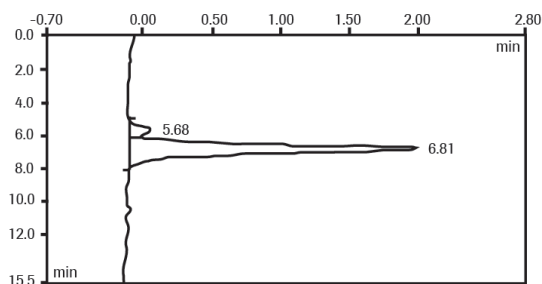
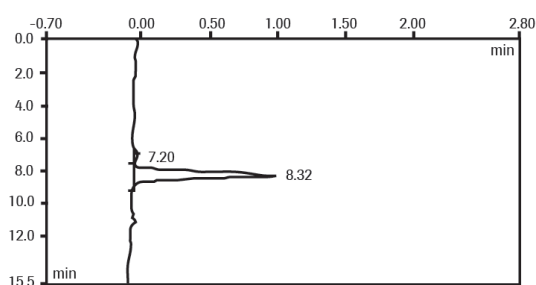
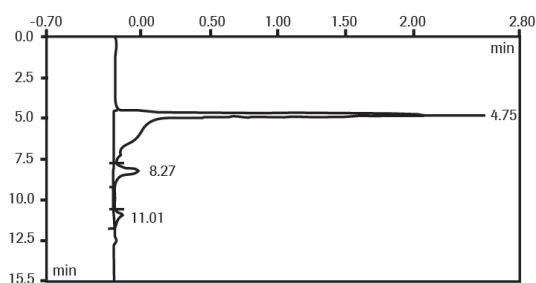

Fig. 1: HPLC, TSK-3000; IgG from rabbit.
Fig. 2: HPLC, TSK-3000; Peroxidase.
Fig. 3: HPLC, TSK-3000; Conjugate of IgG and POD.
For high reproducibility, reactions should be carried out under HPLC TSK-3000 control. Figures 1 to 3 show the TSK-3000 profiles of the starting material, immunoglobulin G from rabbit (Figure 1), POD (Figure 2), and the final product (Figure 3). The IgG is completely bound in the conjugate, corresponding to the TSK-3000 separation profile of Figure 3.
– The reaction proceeds in such a way that practically no (<5%) immunoglobulin is left in the dialysate, see section, **General Considerations, Figure 3**.